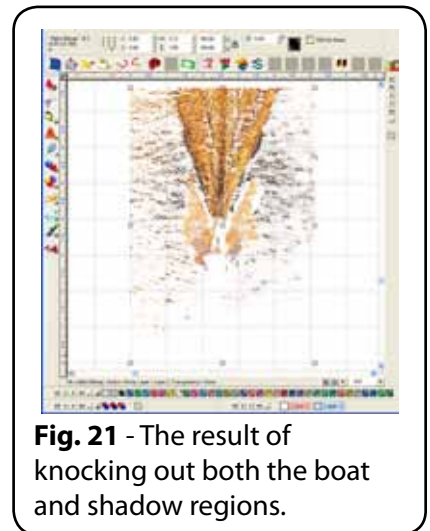

Fig. 21 - The result of knocking out both the boat and shadow regions.
30. Choose **File** menu >> **Save and Apply** [Ctrl + S]. The modified bitmap will be sent back to SignLab (Fig. 21).